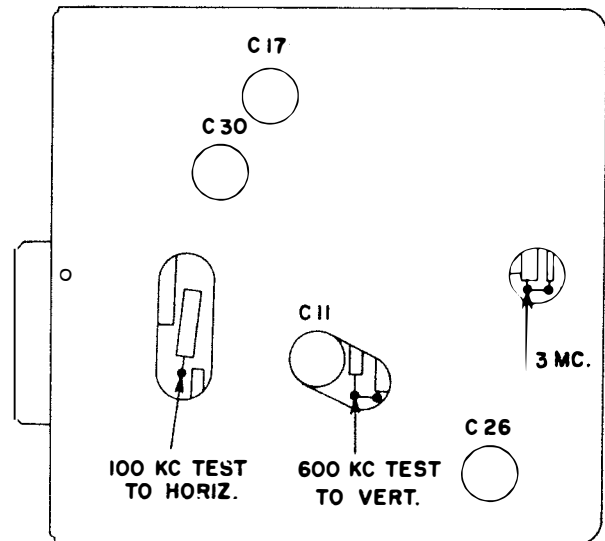

Figure 1. Test Points as Viewed Through Alinement Cover
7. Connect the oscilloscope to the 100-kc. and 600-kc. test points as shown in figure 1. Adjust C17 and C30 for a well-balanced 6-to-1 Lissajous figure with maximum amplitude. Tuning of C17 and C30 will readily show the position at which the best figure display will be seen. Adjust C11 for maximum amplitude of the 6-to-1 figure. Tuning of C26 will cause the figure to run off the scope to the left or right. After doing this, the proper setting of C26 will be apparent. At this setting there will also be a very slight increase in the amplitude of the 6-to-1 figure. If the 6-to-1 figure is obtained, it is known that the 2.4 mc. signal and the 100-kc. signals are present and the above adjustment will have peaked the 2.4-mc. signal.